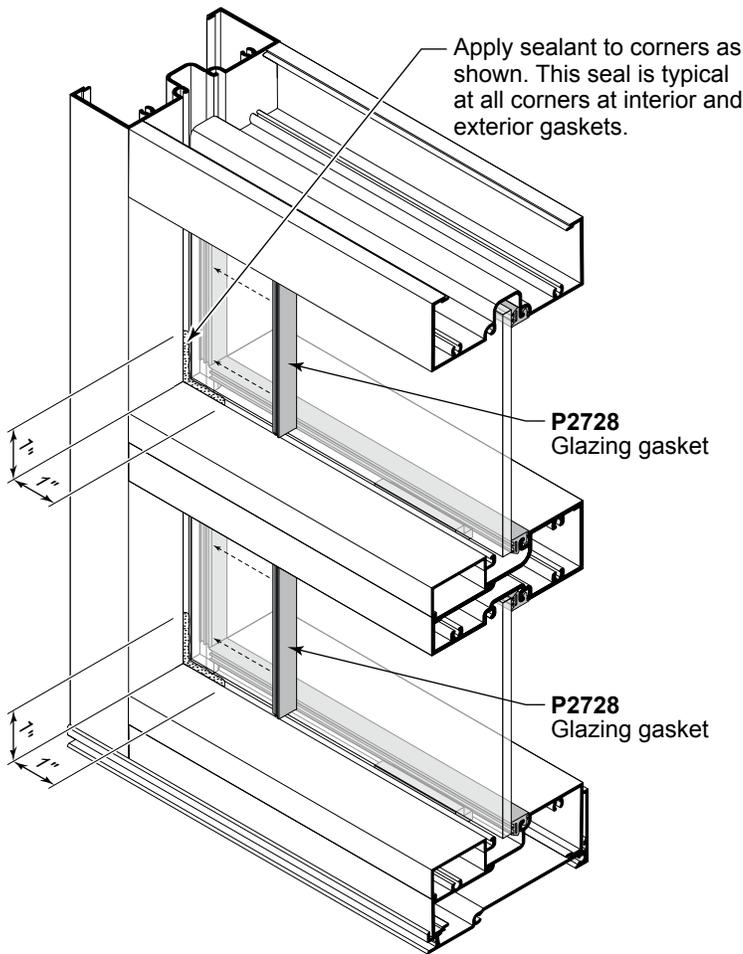

Fig. 38.1
- C. Install the exterior vertical gaskets at each end and work toward the center, firmly pushing the gasket in place, as show in **Fig. 38.1**.